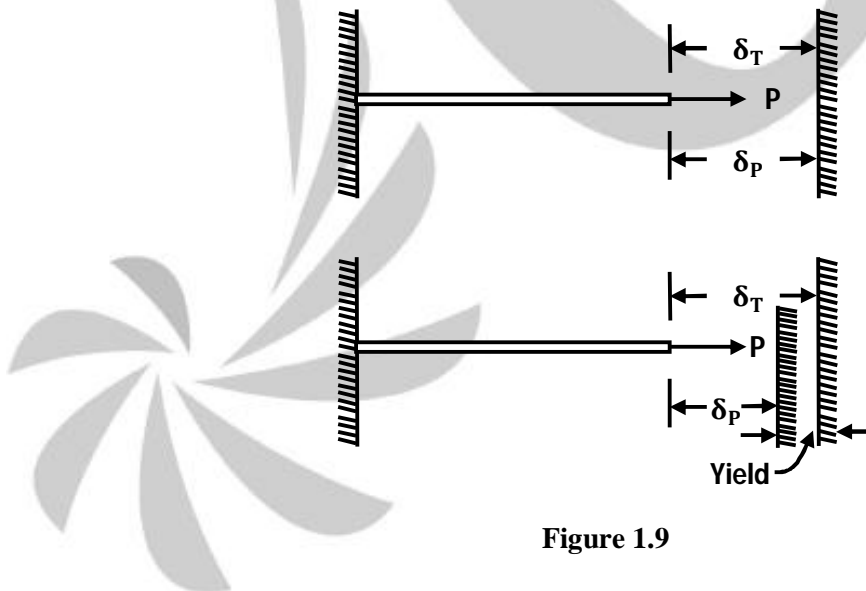

Figure 1.9
**Part a.** Imagine the rod is disconnected from the right wall. Temperature deformations can then freely occur. A temperature drop causes the contraction represented by  $\delta_T$  in Fig. 1.9. To reattach the rod to the wall, it will evidently require a pull  $P$  to produce the load deformation  $\delta_P$ . From the sketch of deformations, we see that  $\delta_T = \delta_P$ , or, in equivalent terms
**Part b.** When the walls spring together, Fig. 1.9 shows that the free temperature contraction is equal to the sum of the load deformation and the yield of the walls.